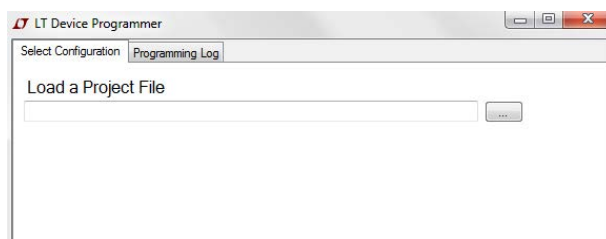
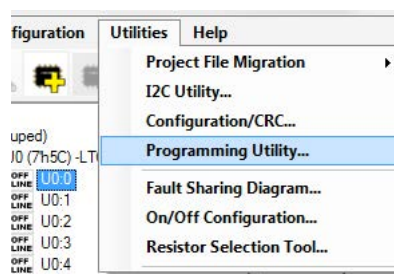

Figure 8. Selecting a .proj File to Program
Figure 9. Utilities > Programming Utility from the Menu
6. Launch the LTpowerPlay software from your PC. The device programming utility shown in Figure 8 should pop up automatically. If it does not then select the Utilities>Programming Utility from the menu shown in Figure 9.
7. Click “...” next to the selection box and select a .proj file from your system to program the device. See Figure 8.